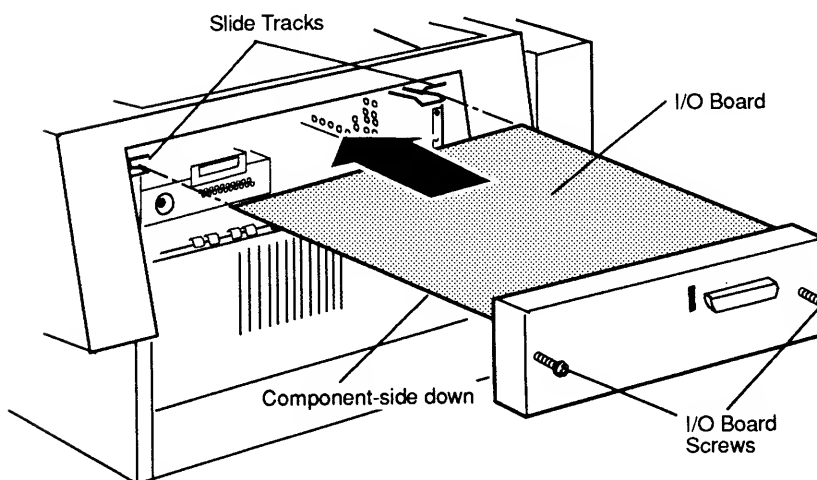

Figure 6-1 Installing the I/O Board
6. Carefully slide the board (component-side down) into the I/O board opening at the rear of the printer (**Figure 6-1**).